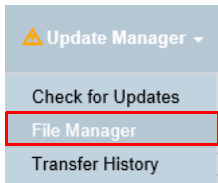

FIG. 39 Update Manager menu - File Manager
1. In the RMS Enterprise HTML interface, open the *Update Manager* menu, and select **File Manager** (FIG. 39):